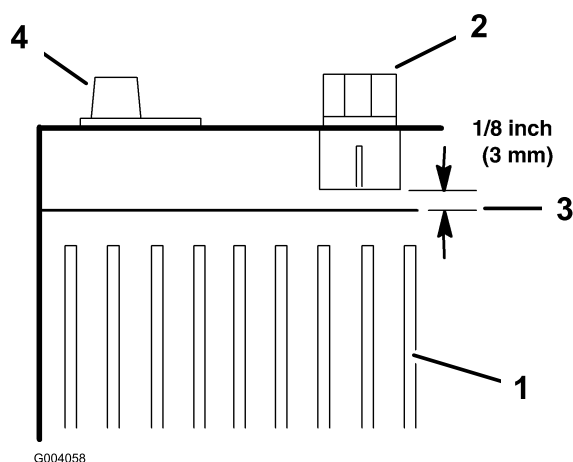

Figure 23
7. Add just enough distilled water to bring the electrolyte level to 1/8 inch (3 mm) below the bottom of each fill well (Figure 23).